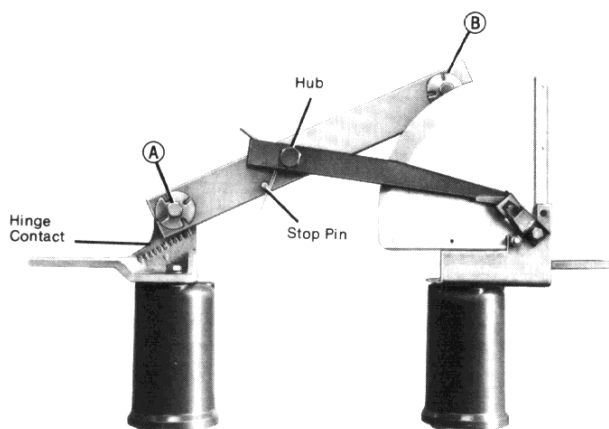

FIGURE 1 CONTACT PRESSURE ADJUSTMENT
Start with the switch in the closed position. Disconnect the connector link from the main shaft ("R" in the sketch on page 5). With the connecting links disconnected, tighten bolt "A" in figure 1 until the blades will be supported at the hinge in any position. Tighten bolt "B" in figure 1 until a force required to disconnect blades (applied at bolt "B") is as follows:
2. Disconnect insulating connector link (M) by removing bolt, spacer, and nut (at Q).
3. Remove main and interrupter blade assembly by removing the hinge bolt "A." (See assembly sketch, figure 1).